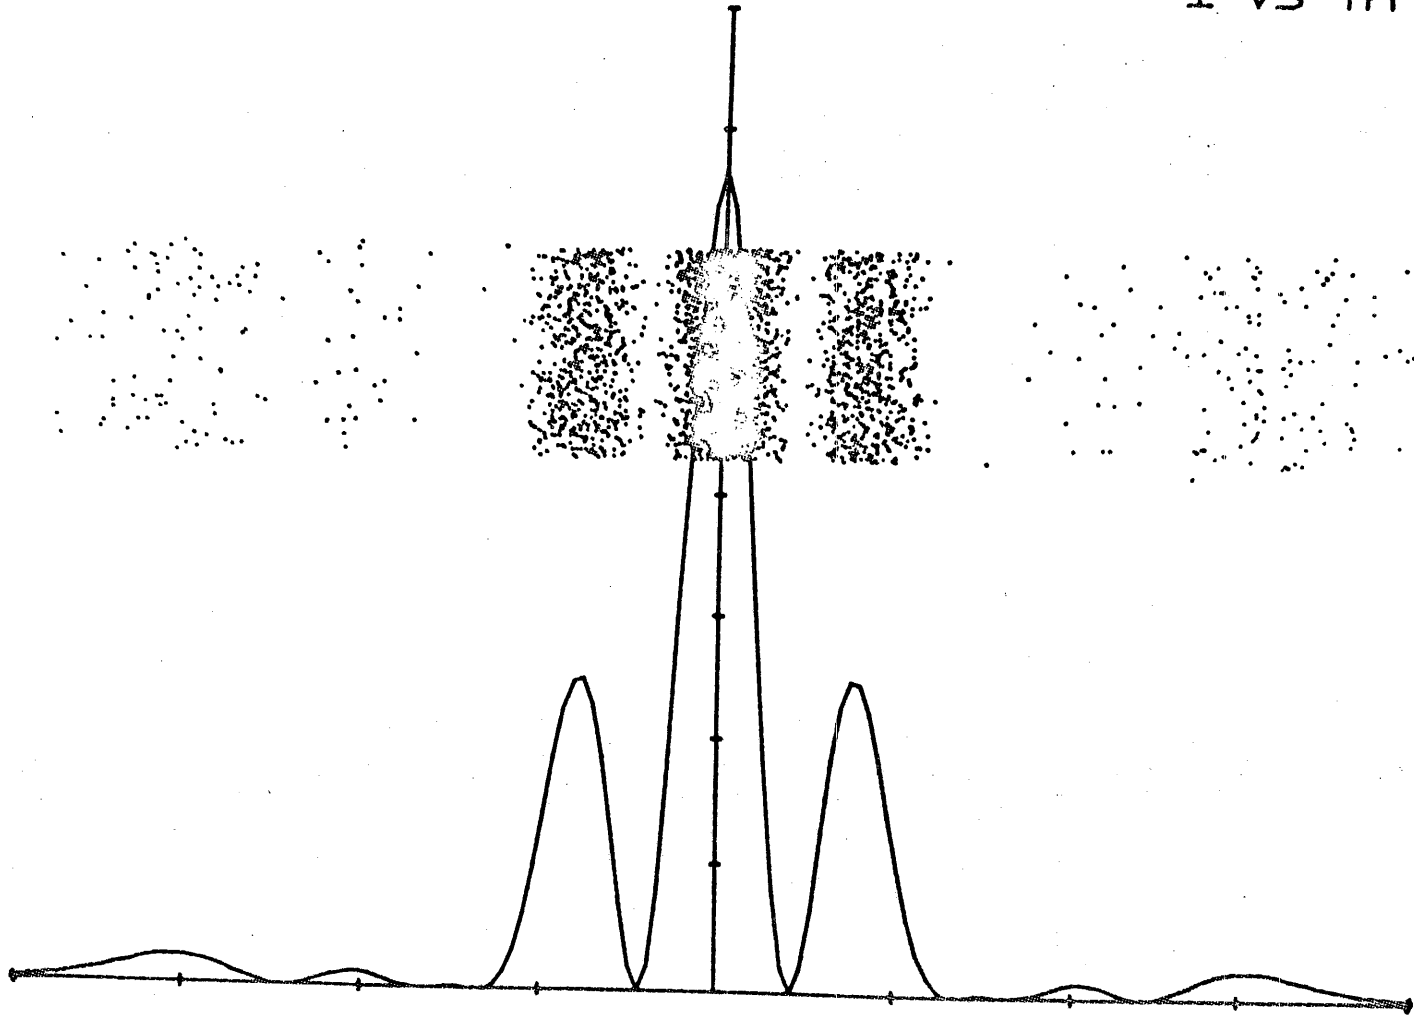

Figure 14
6. Fraunhofer diffraction (Figure 14).